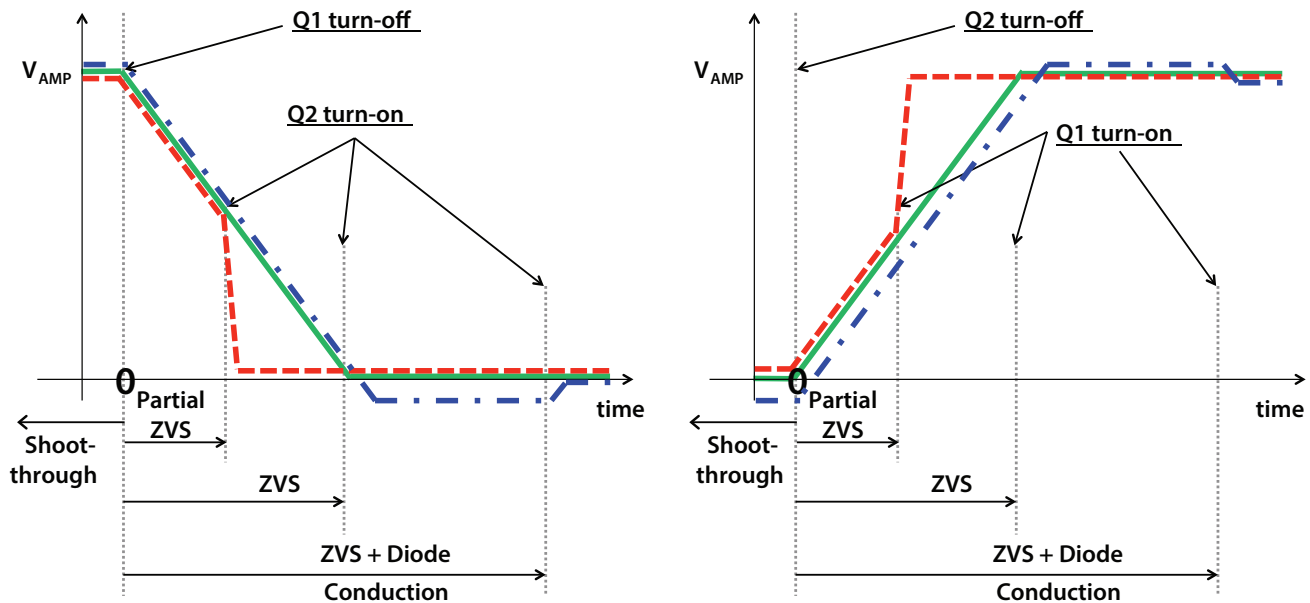

Figure 5: ZVS Timing Diagrams
Setting the correct time to establish ZVS transitions is critical to achieving high efficiency with the EPC9510 amplifier. This can be done by selecting the values for R71 and R72 or P71 and P72 respectively. This procedure is best performed using a potentiometer installed at the appropriate locations that is used to determine the fixed resistor values. The timing MUST initially be set WITHOUT the source coil connected to the amplifier. The timing diagrams are given in figure 5 and should be referenced when following this procedure. Only perform these steps if changes have been made to the board as it is shipped preset. The steps are:
6. While observing the oscilloscope adjust the applicable potentiometers to so achieve the green waveform of figure 5.